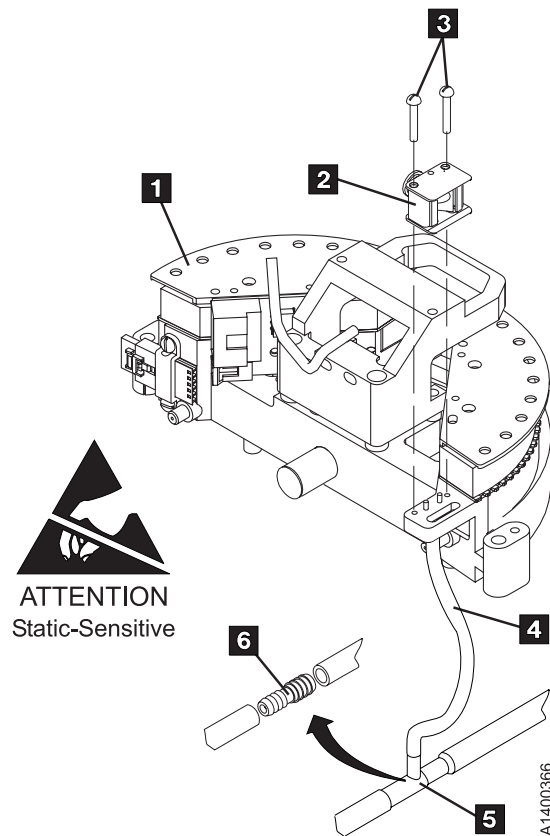

Figure 349. Cleaner Blade Removal
- All of the Model E11/E1A Head Guide Assemblies and most of the Model B11/B1A HGAs will not have the Cleaner Blade shown in Figure 349, item **2**. If you are replacing a Head Guide and Brush Assembly, and the replacement part **does** have a cleaner blade attached to it, follow this procedure to remove it.
4. Referring to Figure 349, remove two screws, **3** holding the cleaner blade assembly, item **2** onto the Head Guide and Brush Assembly, item **1**.